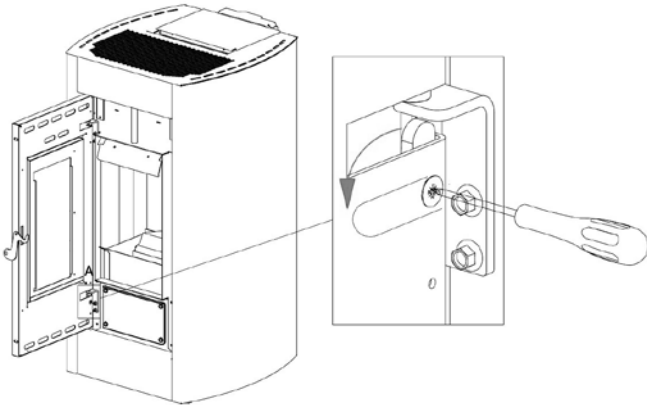

Fig. 19 - Remove screws
- Use a screwdriver to rotate the lever in the direction of the arrow (see **Fig. 19**).